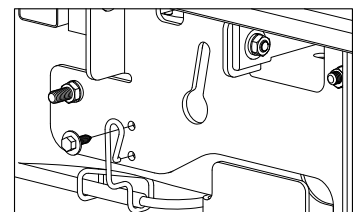

FIGURE C9: View from outside of Driver Side Frame.
6. **Replace cable bracket.** If the brake cable bracket was removed at the beginning of the side plate installation, replace it onto the drivers side plate using the M8 bolt that was originally in the frame, See Figure C9.